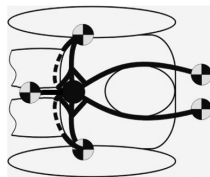

Figure 5.A
- b. Each side lap belt and leg strap shares a single (or immediately adjacent) mounting point located within the seat or seating tub or at a point with direct unencumbered routing. Each leg strap loops around the shoulder belt connector, passes down through a D-Ring on the lap belt, wraps around the thigh, and passes directly under the driver's bottom outwards to the same or an immediately adjacent location of the lap belt mounting point. The significant incline of the seat bottom combined with the weight of the driver sitting directly on the leg straps helps to load the lap belt thereby reducing ride-up of the lap belt when loaded. If used in an automobile with an upright seating position, a seventh point is recommended and pictured in Figures 5.A-7.A. The purpose of the seventh point is to provide better and faster loading to the lap belt and to help minimize upward movement in the seat allowed by rearward mounted leg straps. Locate the mounting point by following the plane of the shoulder belts as they pass over the chest extending the plane to intersect the floor, and this is the mounting point.